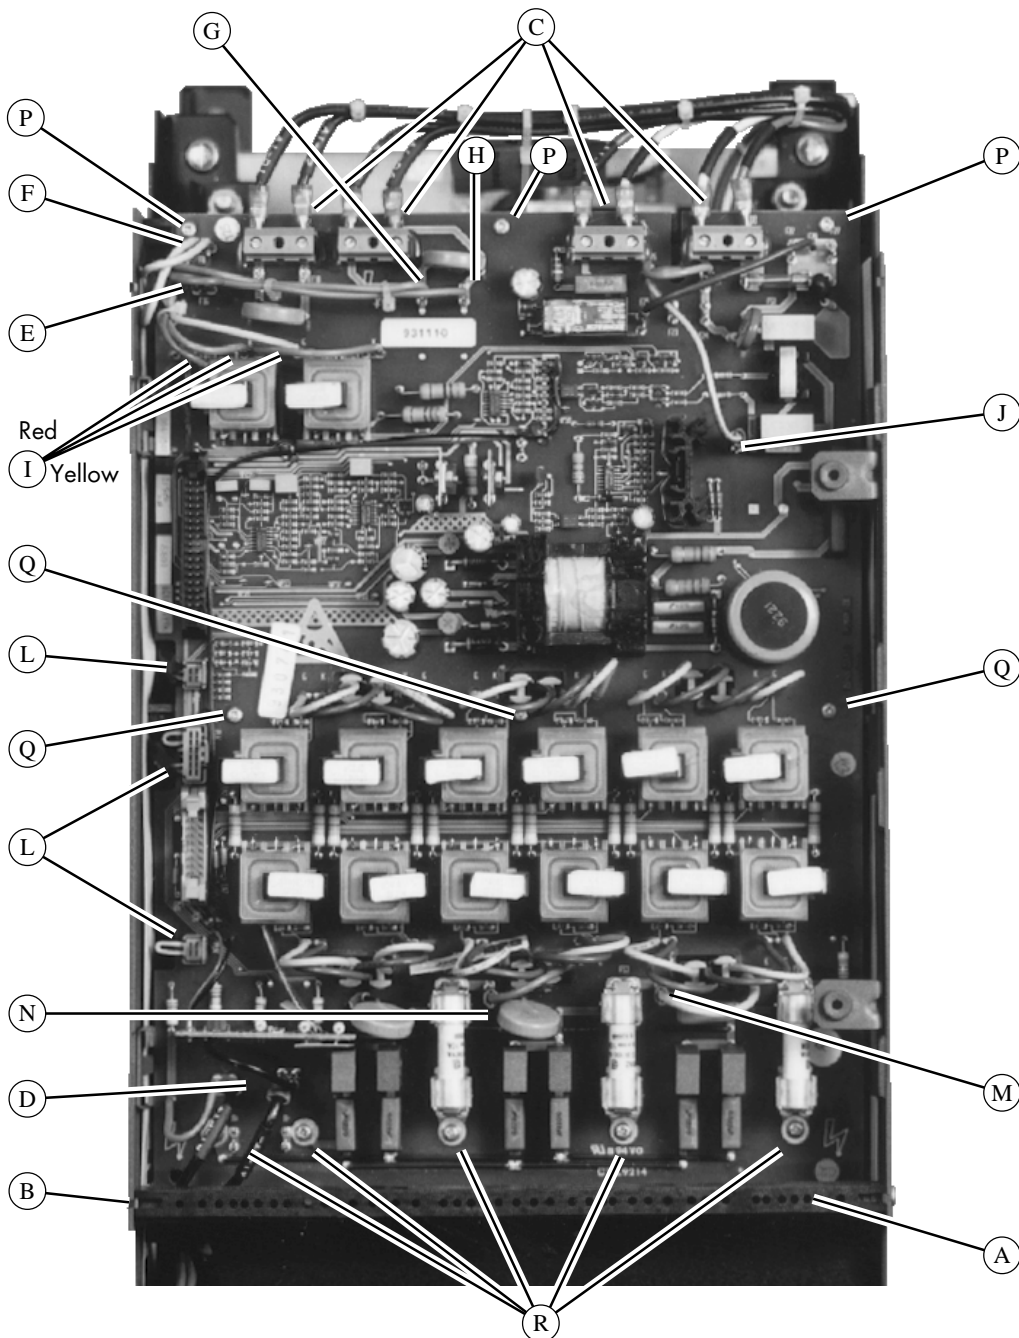

Figure 6.9 - Inside View of 590 Controller
3. Remove the two support bars (A) held in place by the phillips head screws. Flat head screws are located on the left side (B). Do not remove the screws retaining the power supply board. The top support bar is removed in Figure 6.9.
- a. Field, contactor, and controller supply wires (C) in terminal blocks D1 through D8 at the top of the drive.
- b. Armature sense wires (D) from the 0.10 male tabs.
8. To reinstall the power supply board (or a replacement), reverse the order of the steps. Be sure to pull the wires (identified in Figure 6.9 as J, L, M, and N) through the board before fastening it in place.